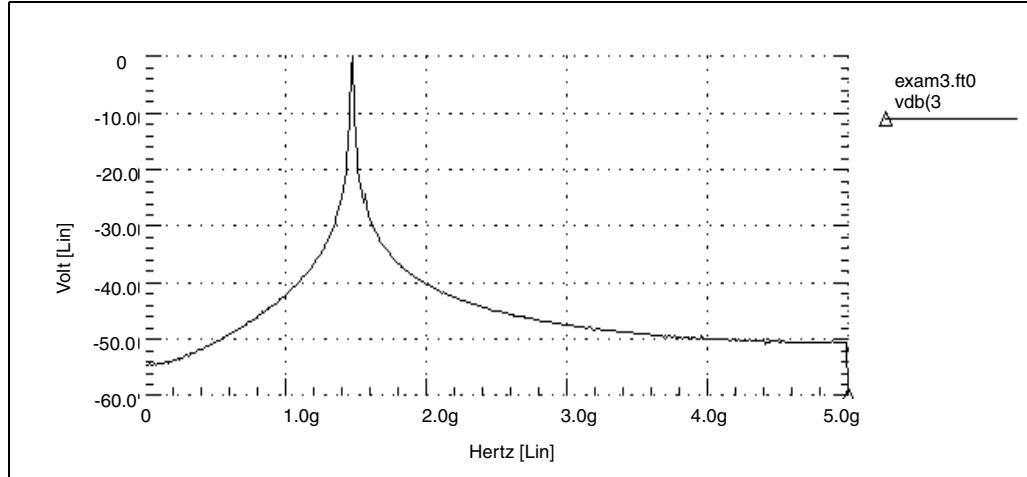
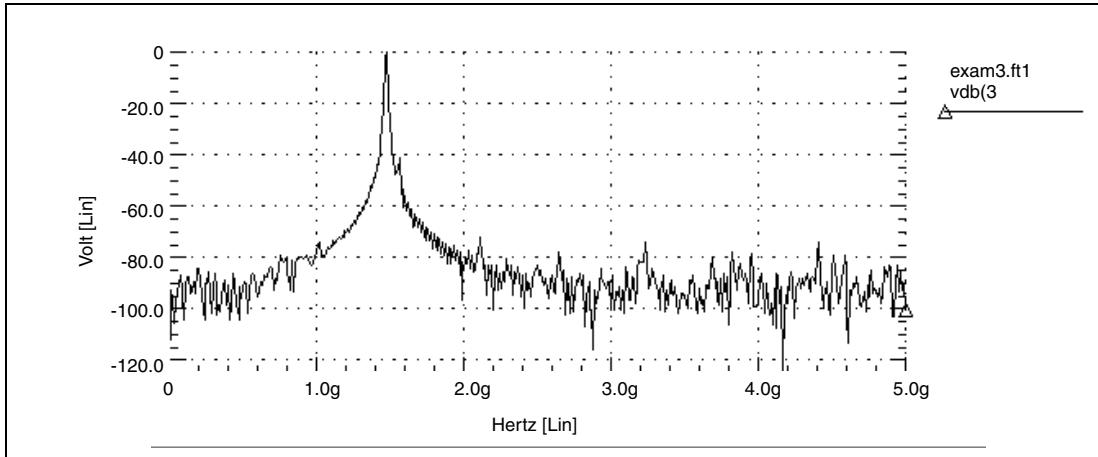
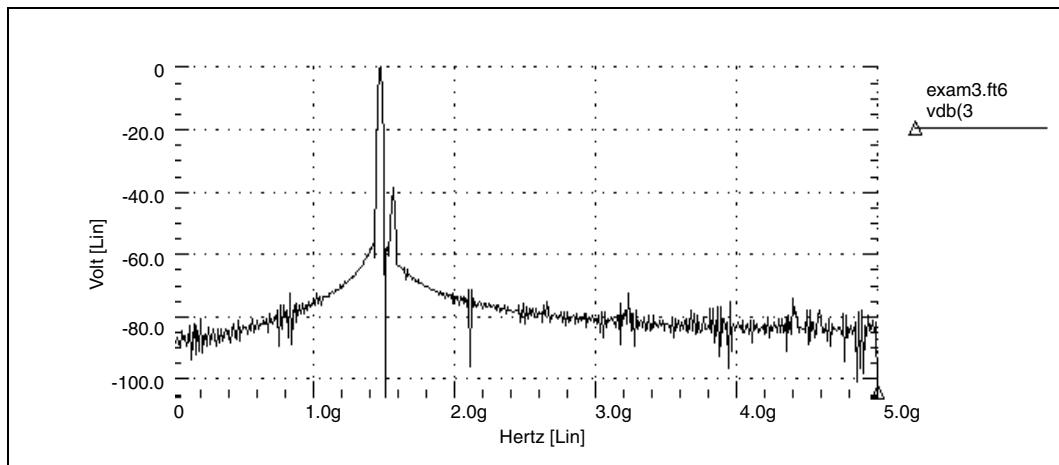
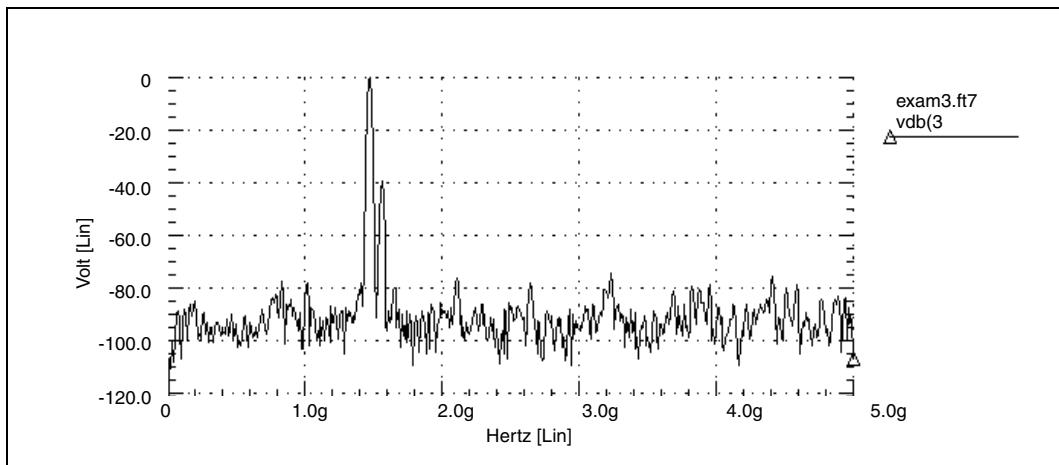

Figure 65 Mixer Output Spectrum, Rectangular Window
Figure 66 Mixer Output Spectrum, Bartlett Window
Figure 71 Mixer Output Spectrum, Gaussian Window
Figure 72 Mixer Output Spectrum, Kaiser-Bessel Window
Figure 65 shows the rectangular window. Compare this with the spectra of the output for all FFT window types, as shown in Figure 66 through Figure 72. Without windowing, HSPICE or HSPICE RF does not detect the weak signal because of spectral leakage.
- In the Bartlett window (Figure 66), the noise floor increases dramatically, compared to the rectangular window (from -55, to more than -90 dB).
- The final two windows (Figure 71 and Figure 72) use the `ALFA=3 . 0` parameter, which is the default value in HSPICE or HSPICE RF. These two windows also produce acceptable results, especially the Kaiser-Bessel window, which sharply separates the two tones, and has a noise floor of almost -100-dB.